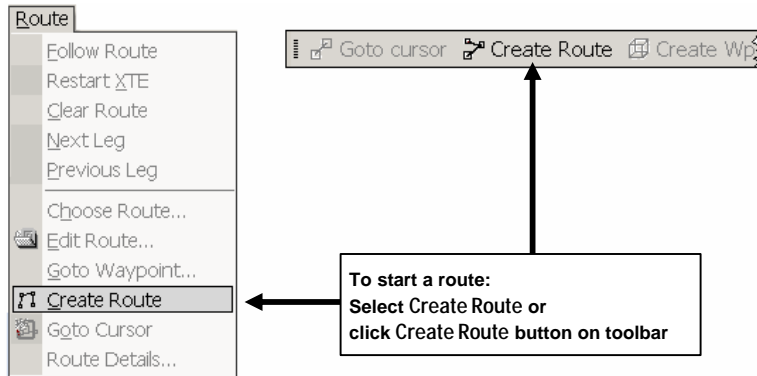
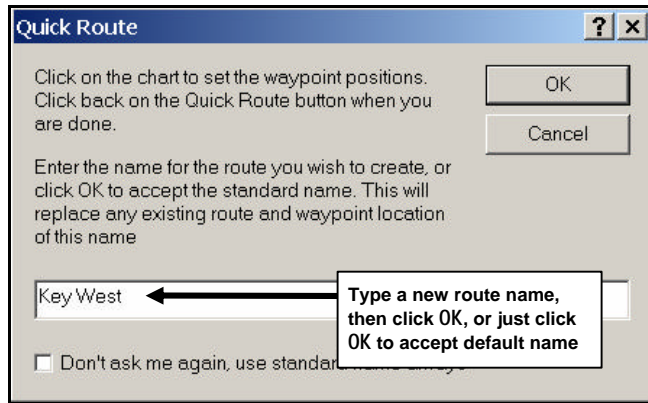

Figure 4-6. Two Ways of Starting a Route
Figure 4-7. Quick Route Dialog Box
1. As shown in Figure 4-6, select **Create Route** from the Route menu, or, click the **Create Route** button on the toolbar. The Quick Route dialog box is displayed (Figure 4-7).